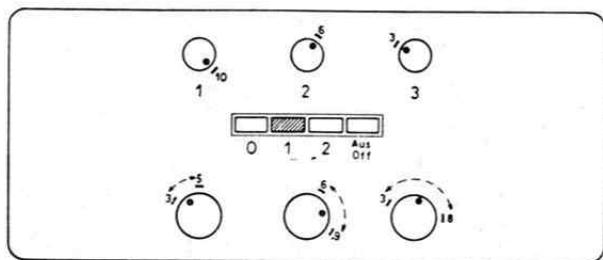

Fig. 5: Hall setting example
3. Generally, a gradual decaying reverberation preferred, such as according to Fig. 5